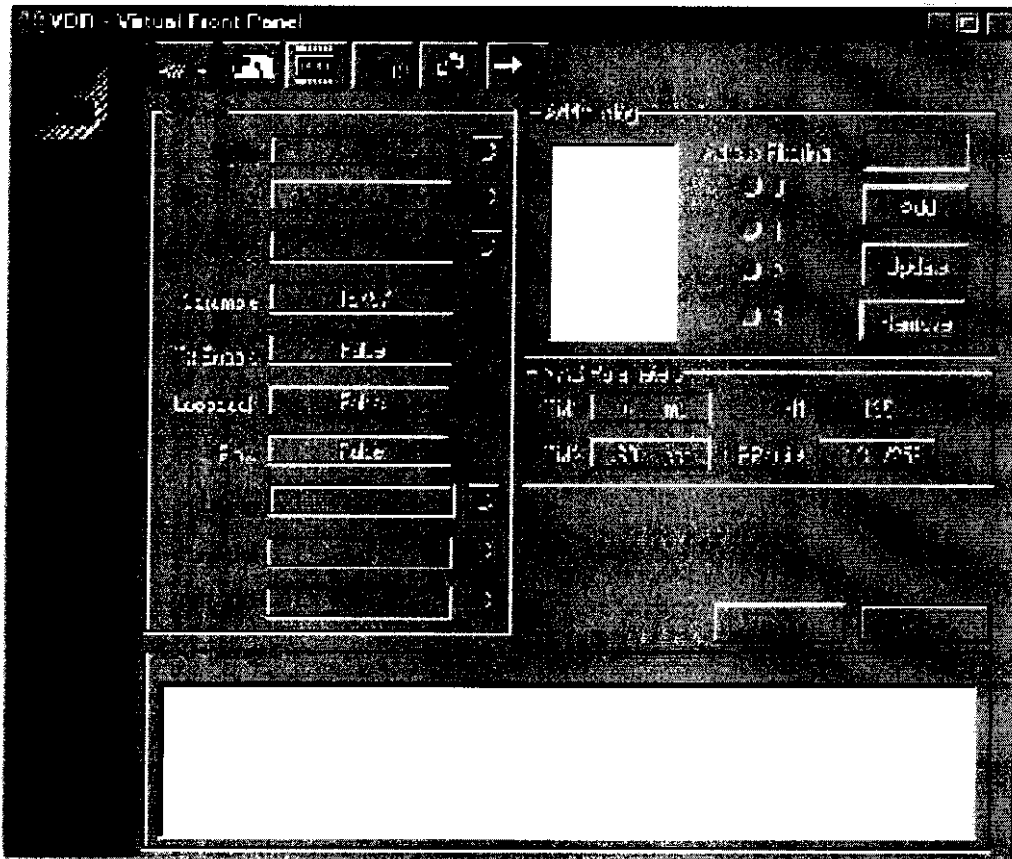

Fig 16 Multi-Mode Virtual Front Panel Showing ACARS Selected
Those parameters not applicable to the selected mode are 'greyed-out' on the VFP (see Figs 16 and 17).
The radio's mode of operation can be set to ACARS, or Mode 2. To select the required mode, display the VFP (see Figs. 16 and 17). Check which Mode is displayed. If the displayed mode is incorrect, proceed as follows.
- Display the radio's Virtual Front Panel (see Fig. 16 or 17).
- Display the radio's Virtual Front Panel (see Fig 16).